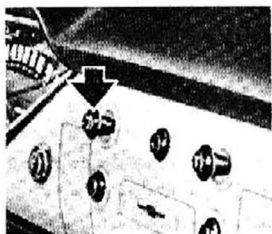

Fig. 18—Windshield Wiper Control Knob
**Windshield Wiper.** The windshield wiper motor is mounted under the instrument panel and is vacuum operated from the engine. The control knob (fig. 18) located above and to the right of the ash tray on the instrument panel is used to regulate the wiper. Rotating the knob clockwise turns the wiper on and rotating it counter-clockwise decreases wiper speed or turns it off completely.